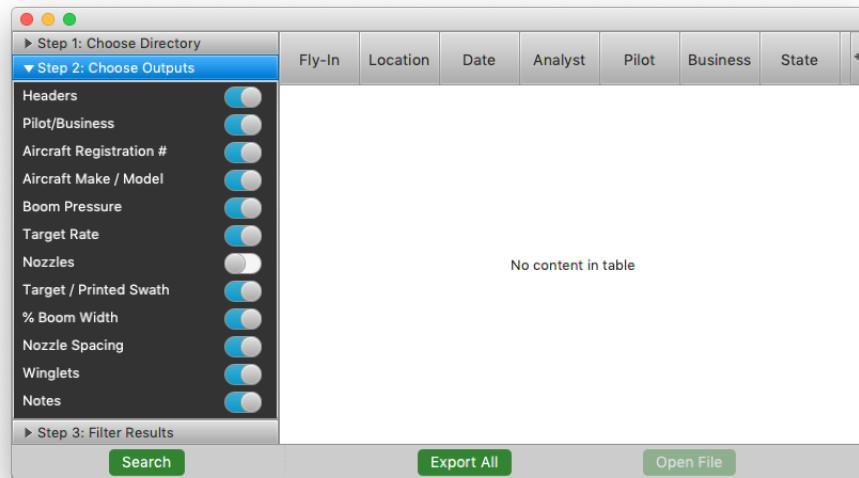

Figure 28: Using the Finder feature - Step 2
2. (OPTIONAL) Choose what information you are interested in displaying. By default, all fields are checked, but you can uncheck any field you do not want to display. For example, in (Figure 28) the "Nozzles" output is turned off, so nozzle data will not be displayed in the output table.